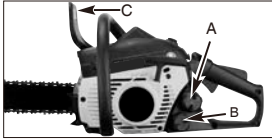

Fig. 7
1. Fill the fuel tank (A) with correct fuel mixture. (Fig. 7).
2. Fill the oil tank (B) with correct chain and bar oil (Fig. 7).
3. Be certain the chain brake is engaged (C) before starting unit (Fig. 7).